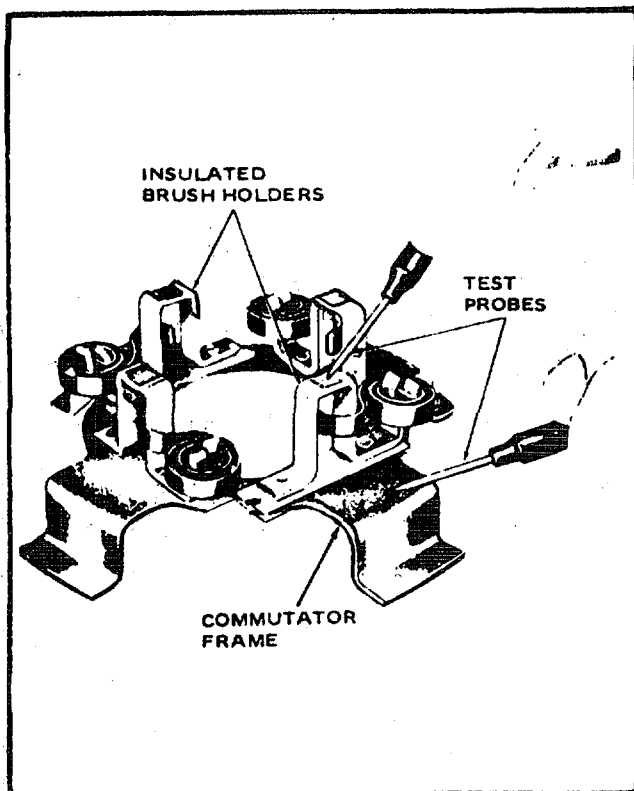

Figure 6-17. Testing Commutator Frame
- (h) See Figure 6-17. Holding one test lead against the commutator frame touch the other probe to each brush holder in turn.